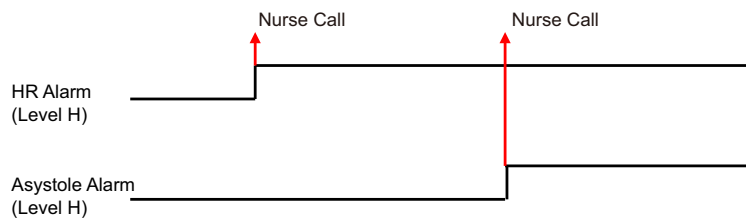

Figure 9: When a new alarm of the same or higher alarm level generates
- ♦ When the alarm of same or higher level generates during the nurse call notification of other alarm, the new alarm will be notified to nurse call (Figure 9).